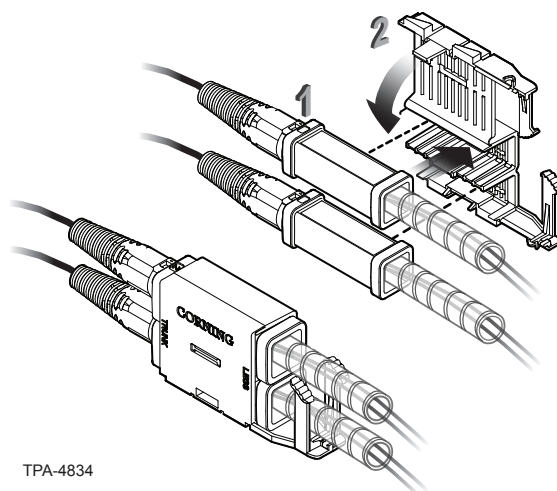
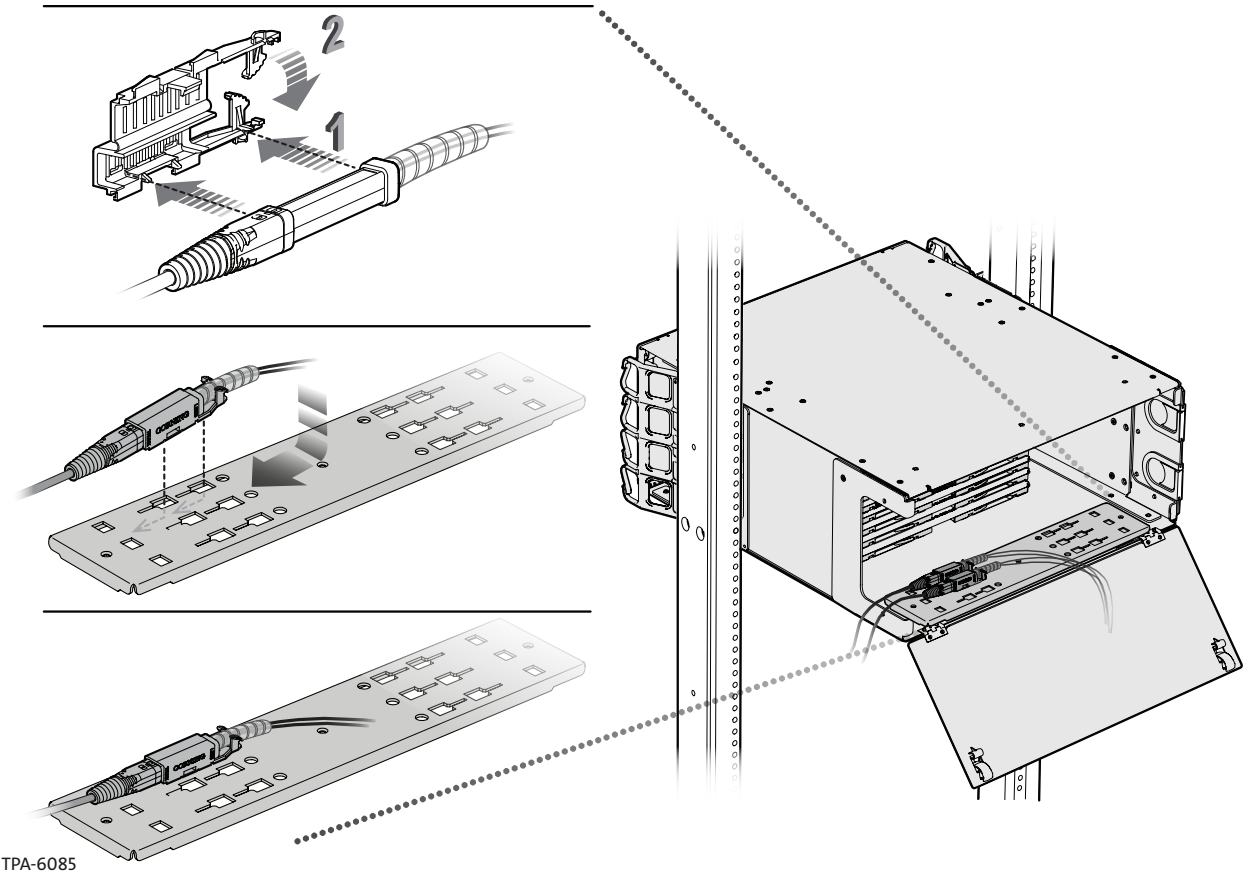

Figure 17
Figure 18
Step 4: Open cradle provided inside the reel and press each trunk cable furcation plug into cradle (Figure 17 - double-stack cradle or Figure 18 - single-stack cradle).
NOTE: One double-stack cradle (shown in Figure 17) is provided with the trunk cable.